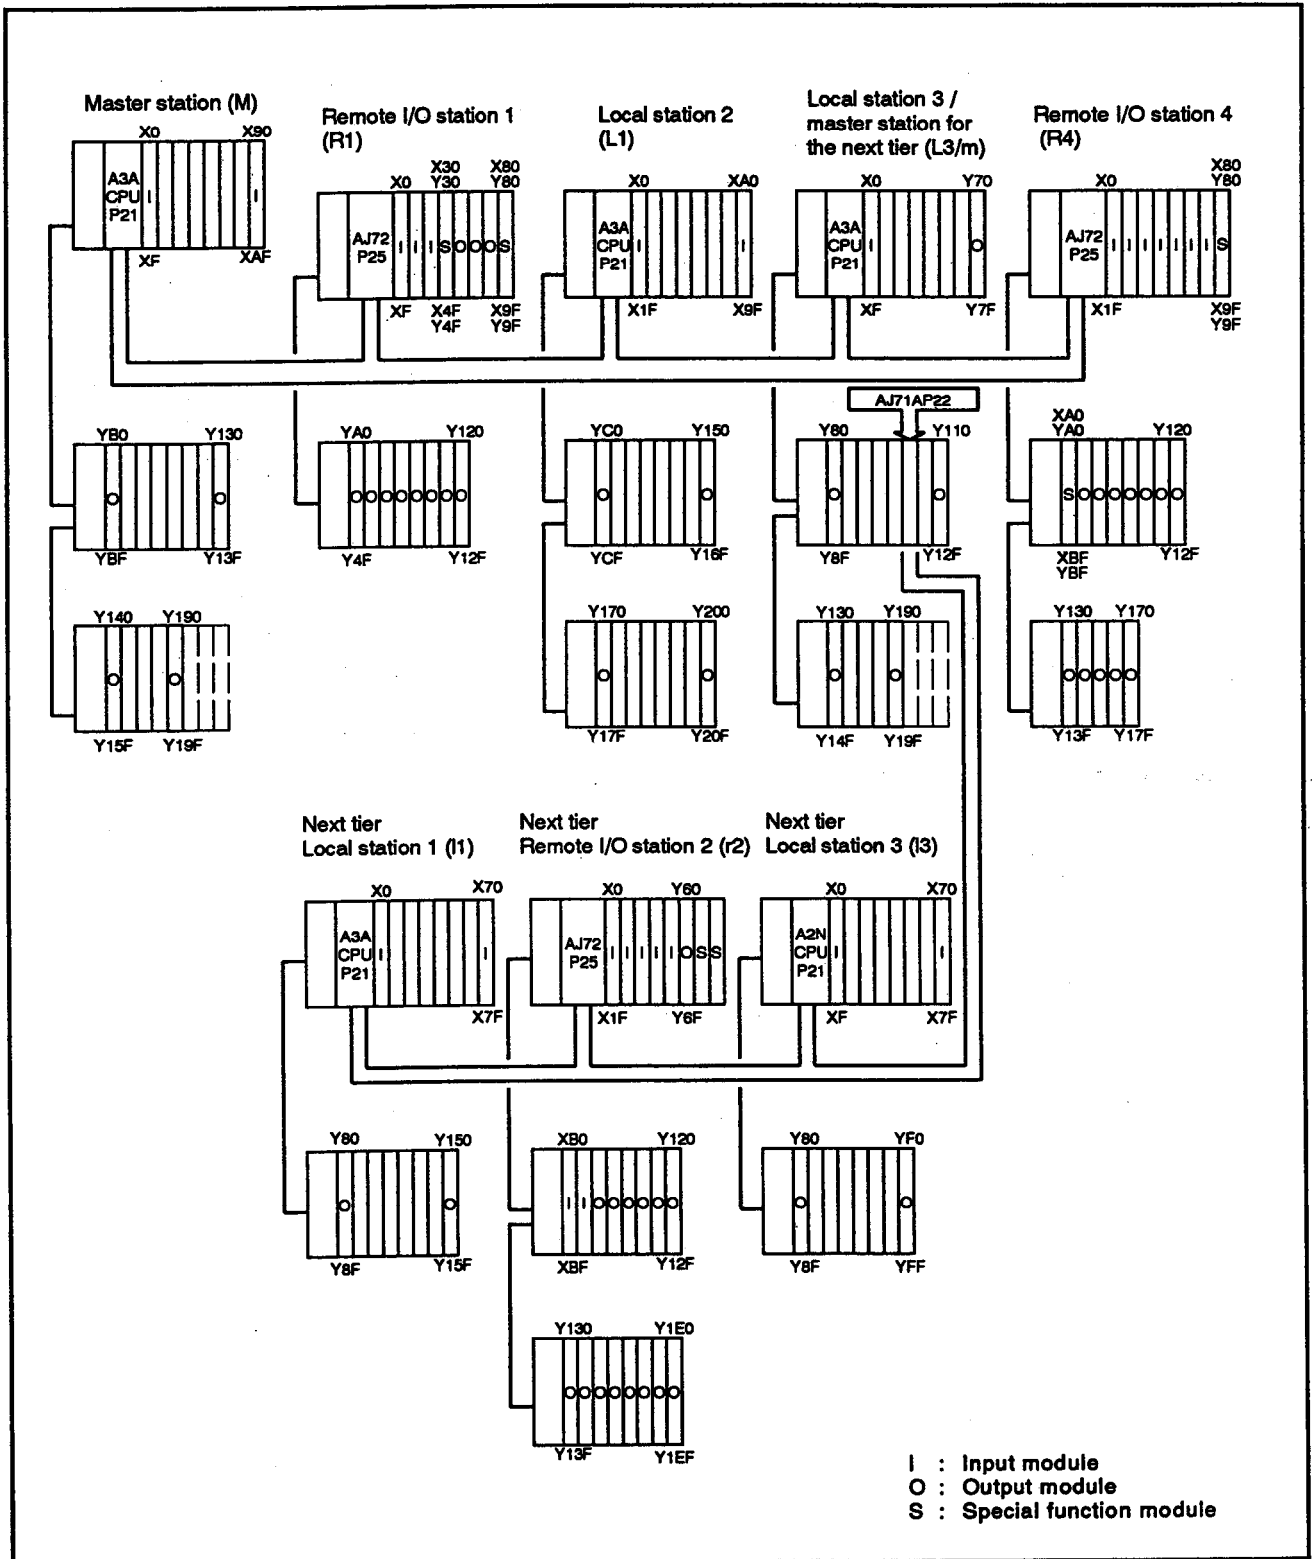

Fig. 7.44 Three-Tier Configuration Example
*Note:* In the system configuration illustrated in Fig. 7.44, 132 points are allocated for the M/R area for the second tier. An M/R area of this range can be allocated.